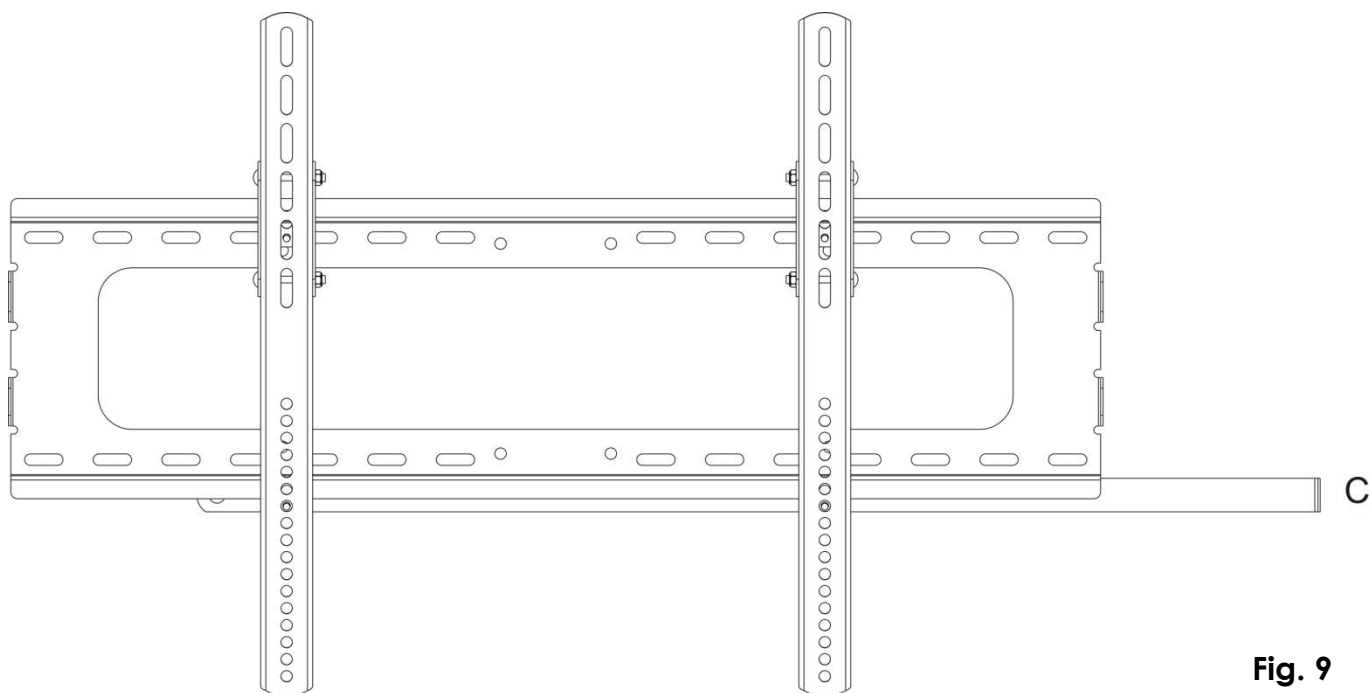
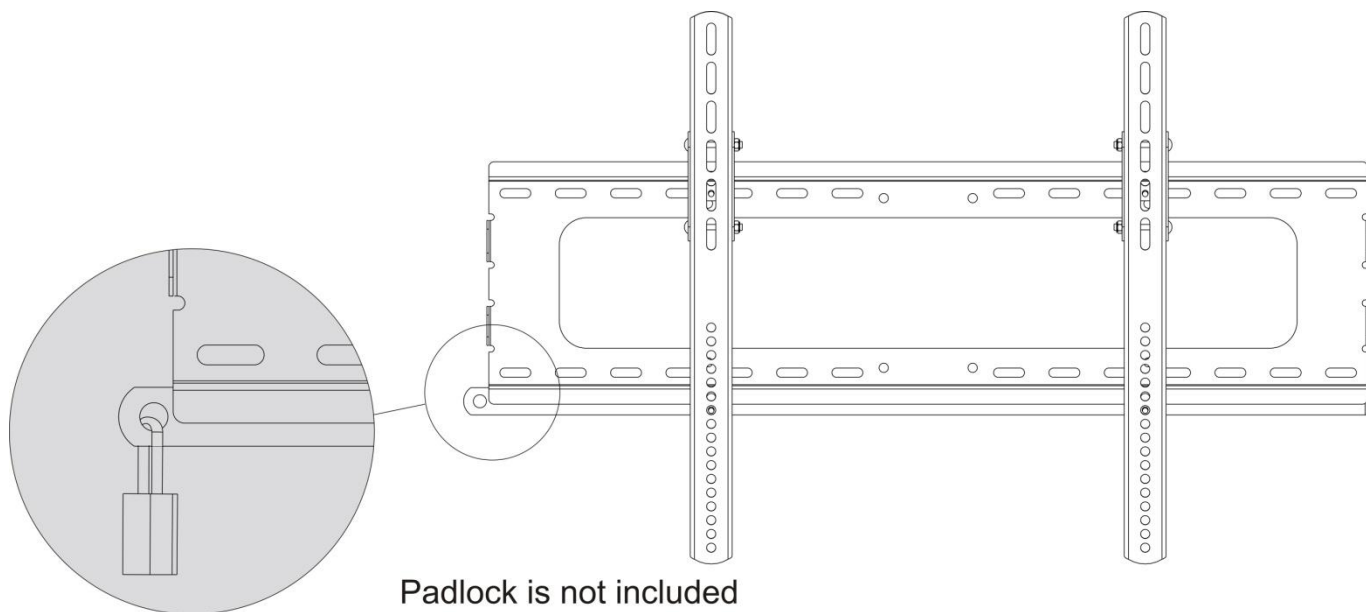

Fig. 9
Fig. 10
- Insert the safety bar (C) to secure the rails. Use a padlock to lock the TV screen into place. For a better overview and more clarity, the TV screen is not shown in Fig. 9 and Fig. 10.